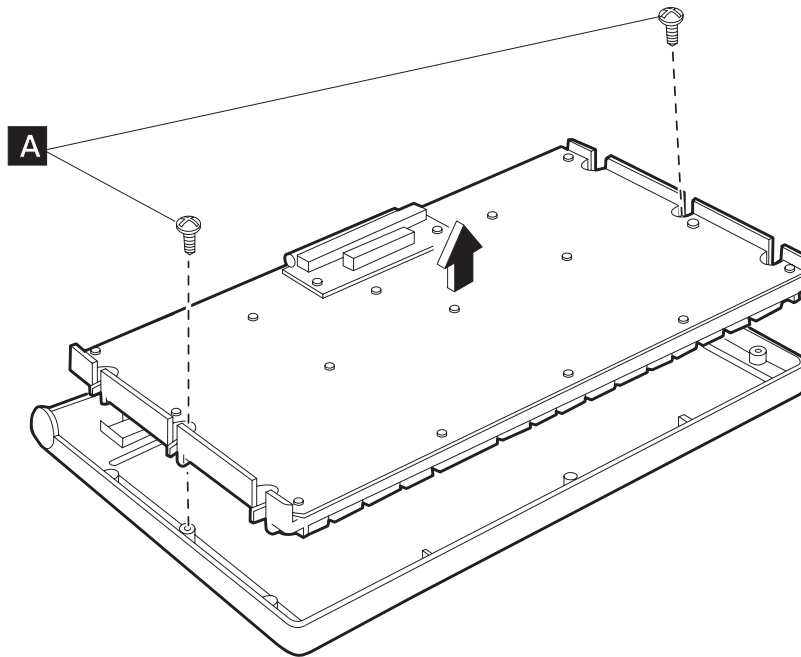

Figure 61. Removing the screws
4. Remove the two screws (**A** in Figure 61 on page 62).